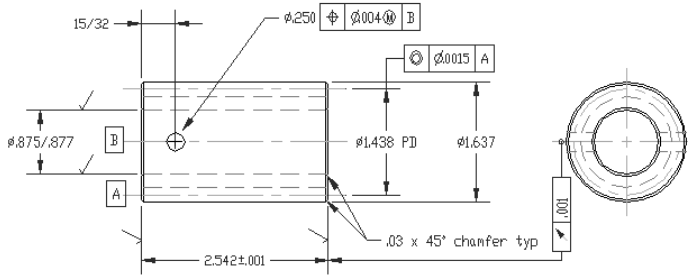

Figure 15-41: The drawing with the added geometric tolerance frame.
8. Save your drawing. It should look like Figure 15-41.